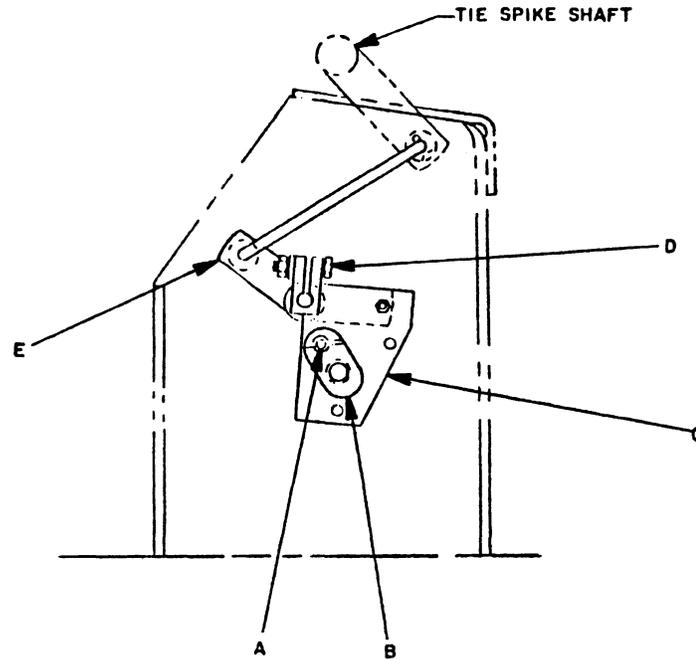

FIGURE 4
2. The tie spikes must be either fully up or fully down for the electronic control system to operate properly. Therefore, adjust the linkage, Figure 4, so that when the spikes are fully up the magnet mounted on link, E, is centered on the face of the electronic sensor which is mounted in plate, B. Also, when the spikes are fully retracted, the magnet on link, E, should be centered on the face of the upper electronic sensor which is mounted on plate, C.